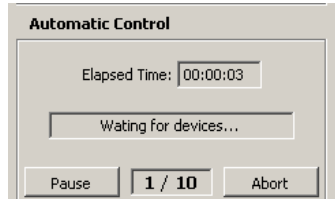

Figure 3.15.4: *Automatic Control* mode in prescan stage
- Wait until the prescan is complete, this will take a few minutes depending on how many arrays are being utilised, during this time you can pause or abort. (see Figure 3.15.4)